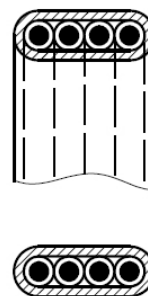

Fig. 3 Cables with common plastic sheath
**Motor cables with a common plastic sheath cannot be repaired or shortened. See fig. 3.**